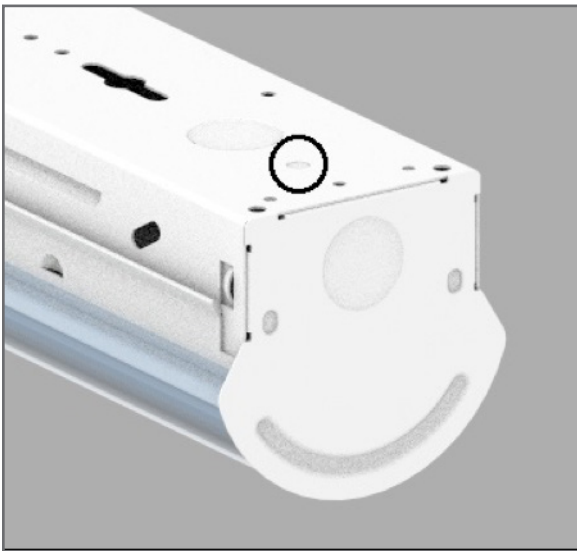

FIGURE 6
3. Remove the 1/4" knockouts (shown circled in Figure 6) on each end of the housing.